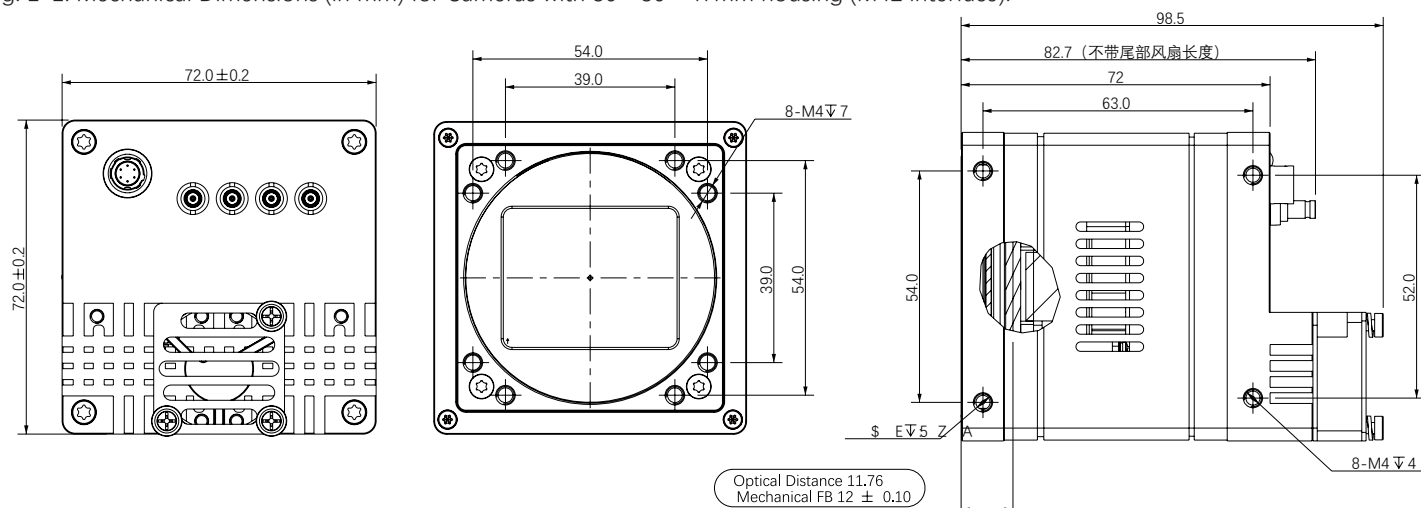

Fig. 1-2: Mechanical Dimensions (in mm) for Cameras with 72 * 72 * 72mm housing (M58 interface).
- Fig. 1-2: Mechanical Dimensions (in mm) for Cameras with $72 \times 72 \times 72$ mm housing (M58 interface).